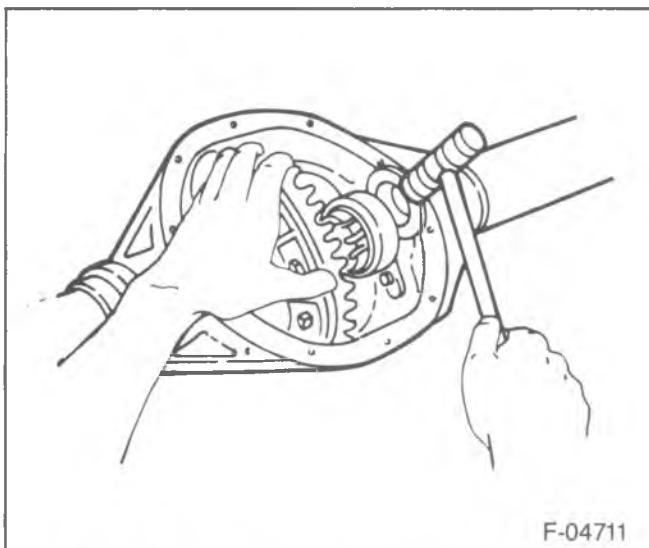

Figure 40—Installing the Final Preload Shim
1. Install the differential case, bearing cups, spacers, and shims as determined from the "Side Bearing Preload Adjustment" earlier in this section. (figure 40).